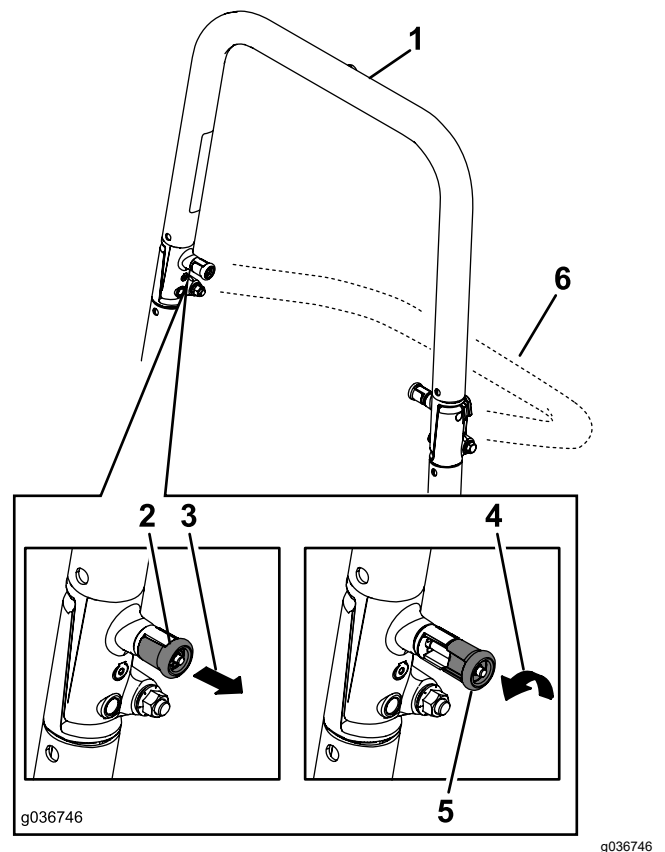

Figure 68
**Note:** The upper hoop of the roll bar may need to be pushed forward or pulled rearward to fully engage both knobs (Figure 68 and Figure 69).